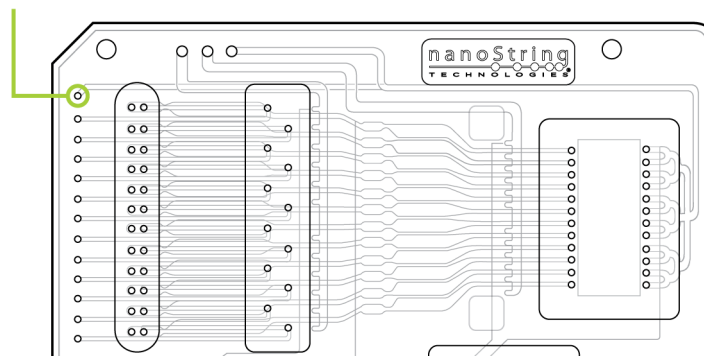

FIGURE 5.4 Clearing cartridge blockages.
- During initialization, the instrument will ensure that the green sticker has been removed by applying pressure to a lane and checking for resistance. If any resistance is detected, the error, "System detected a protective seal on the cartridge. Please Open the Drawer to address this issue" will be displayed. If this error occurs for a cartridge which has had its green sticker removed, use a P200 pipette set to 100 μ L to push air into the left-most well to clear any debris that may be blocking (**FIGURE 5.4**).